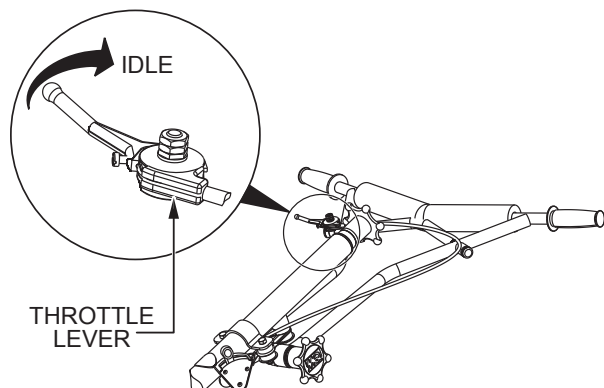

Figure 40. Throttle Lever (IDLE)
1. Return the throttle lever to the **IDLE** position (Figure 40) and let the engine run for three minutes at low speed.